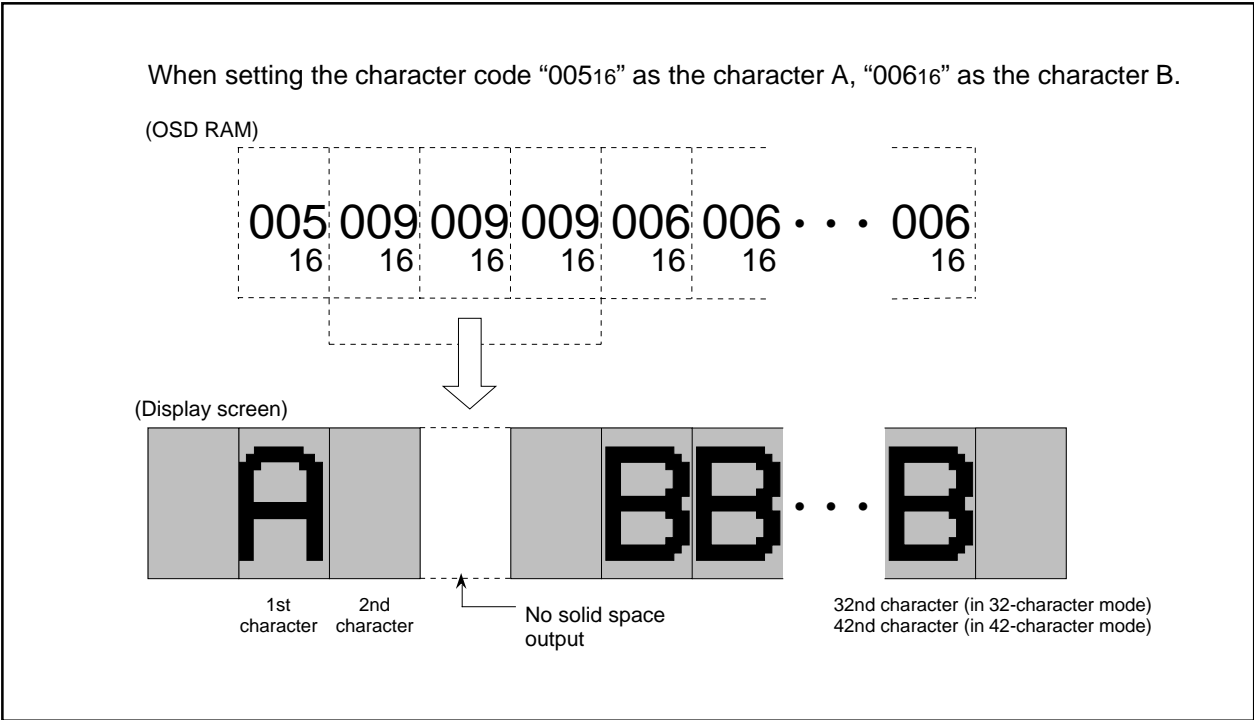

Figure 2.16.38 Display screen example of automatic solid space
**3 :** The border in vertical out of character area is not displayed (refer to Figure 2.16.38).